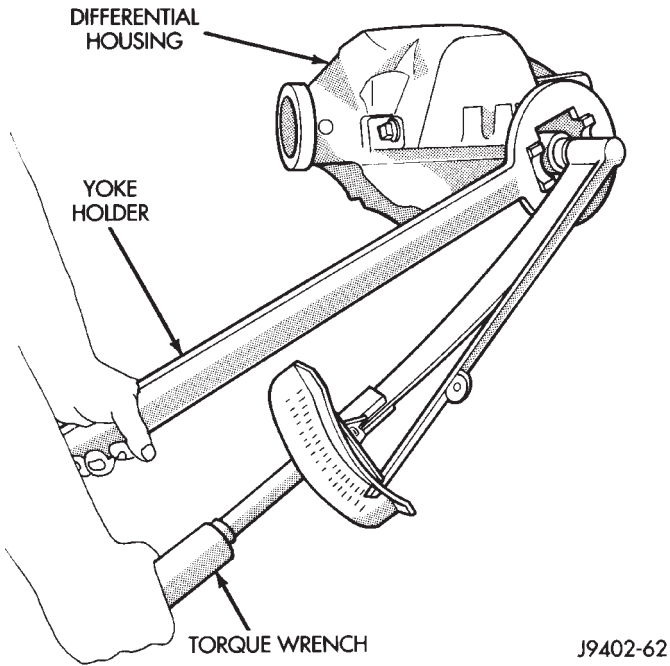

Fig. 15 Tightening Pinion Shaft Nut
(9) Hold pinion yoke with Yoke Holder 6719 and tighten shaft nut to 285 N·m (210 ft. lbs.) (Fig. 15). Rotate pinion shaft several revolutions to ensure the bearing rollers are seated.
(11) If the rotating torque is low, use Yoke Holder 6719 to hold the pinion yoke (Fig. 15) and tighten the